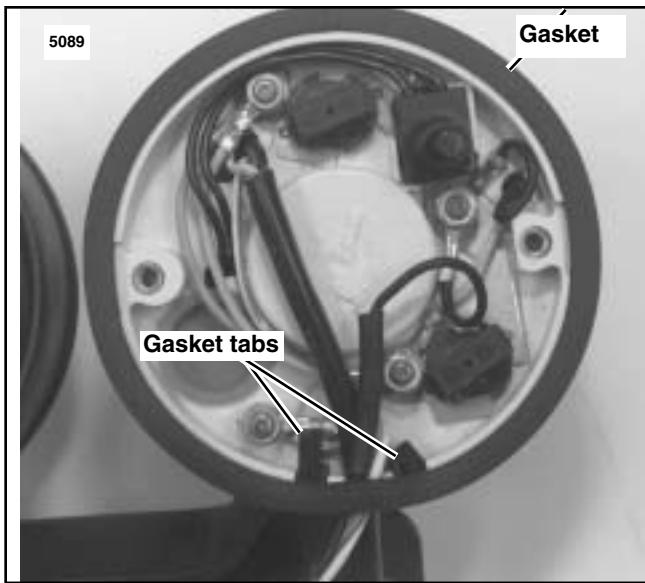

Figure 5. Back of Speedometer
- 6a. See Figure 5. Place wires from speedometer through front of left opening in double bracket. Lubricate the front and rear gaskets with isopropyl alcohol or glass cleaner to ease installation.
- See Figure 5. Place wires from speedometer through front of left opening in double bracket. Lubricate the front and
- 6a. See Figure 5. Lubricate the front and rear gaskets with isopropyl alcohol or glass cleaner to ease installation. Insert speedometer into the front of left opening in double bracket.